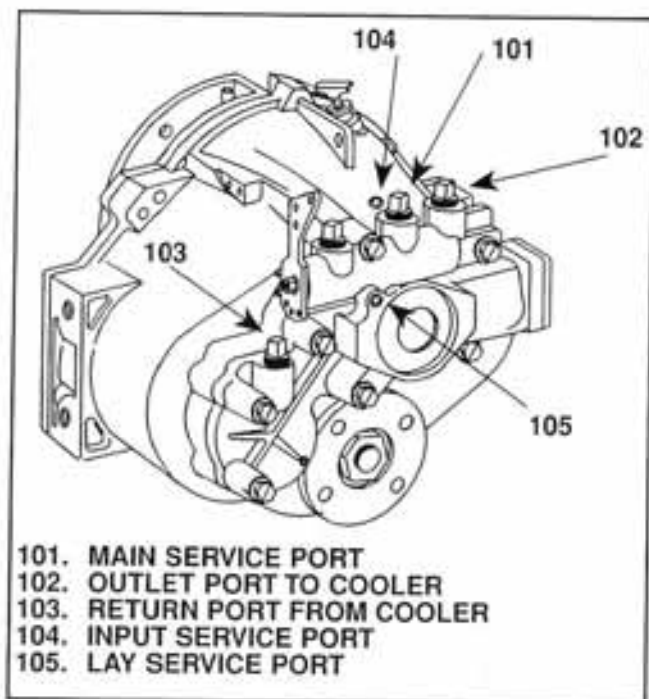

Figure 2-5. Service Port Locations
2-18. CONTROL VALVE AND PUMP ASSEMBLY PRESSURE TEST. Perform the following test to determine if the control valve and pump assembly is functioning properly (see figure 2-5):
2. Remove the sensor or plug installed in the sensor port (101) and install 0-100 psi (690 kPa) gauge in 3/8- 18 NPSF thread port. Remove to-cooler hose from outlet port (102) and install a minimum 10 gal/min (38 lt/min) flow meter. Be careful to follow the flow meter manufacturer's instruction. (see figure 2-5)
4. Pressure in sensor port (101) should read 10-50 psig (68-345 kPa). Flow meter should indicate 0.45gpm to 3.96 gpm (117 lt/min to 15 lt/min).
5. Increase engine speed to 2400 rpm, pressure in port (101) should read 15-70 psig (103-483 kPa). Flow